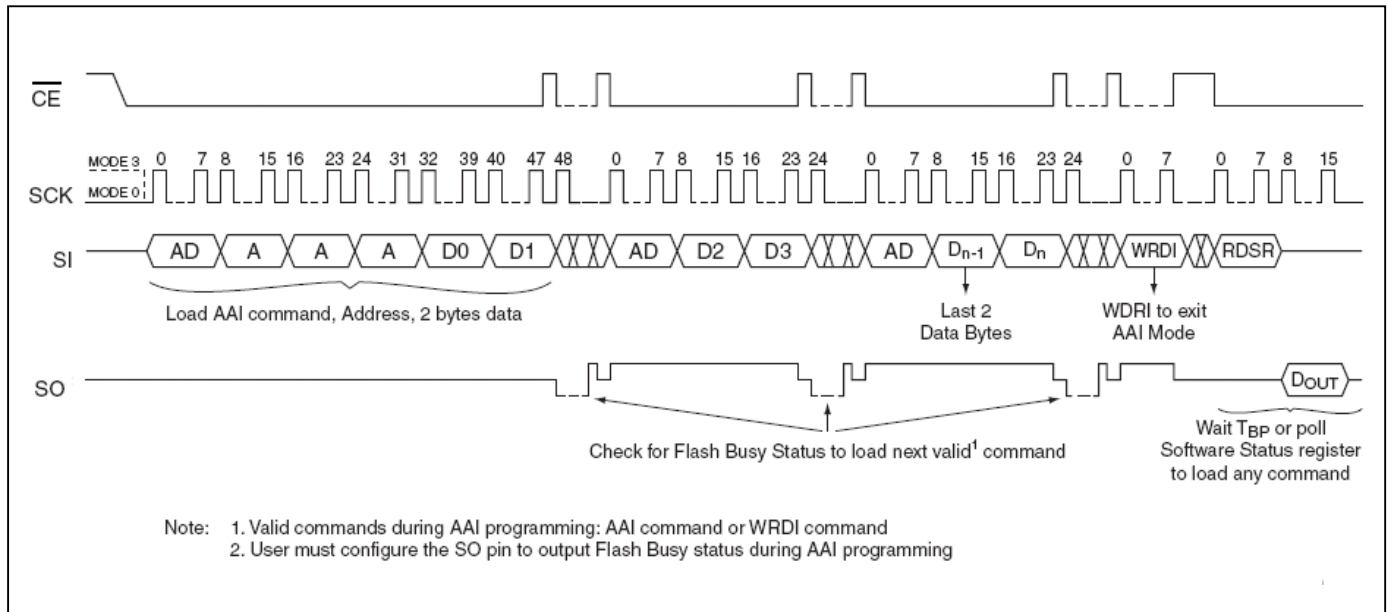
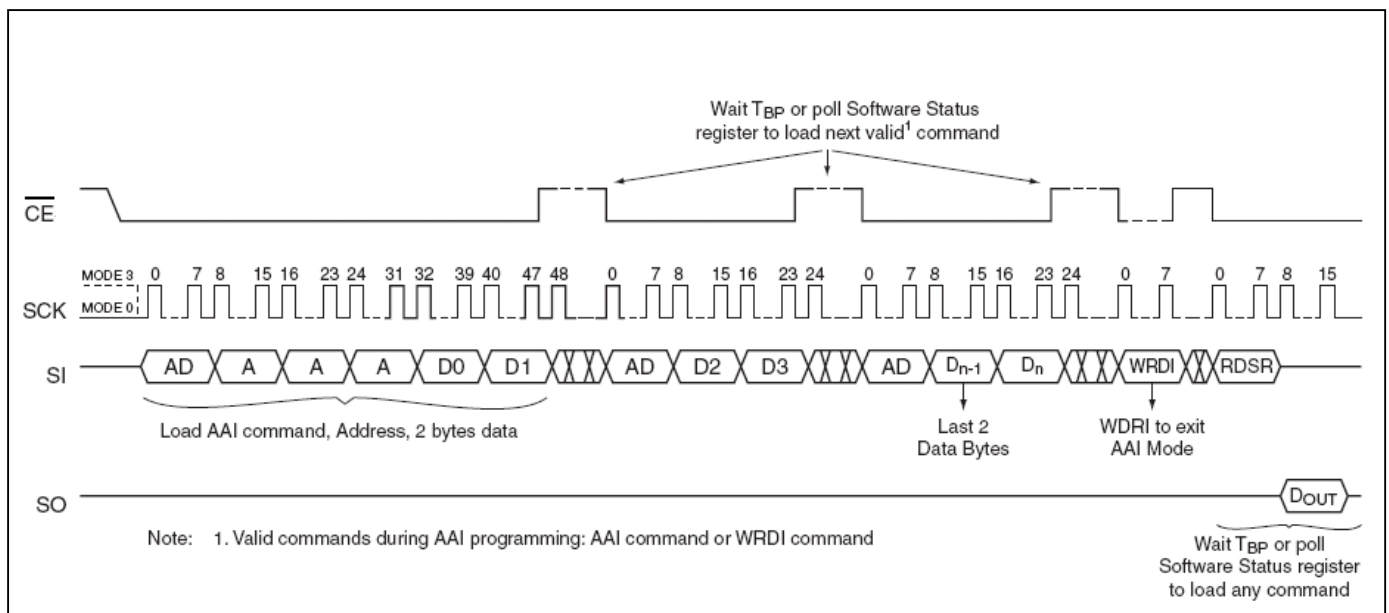

Figure 14: AAI Word Program Sequence with Hardware End of Write Detection
Figure 15: AAI Word Program Sequence with Software End of Write Detection
7) to LSB (bit 0). The first byte of data (D0) will be programmed into the initial address $[A_{23}-A_1]$ with $A_0=0$; the second byte of data (D1) will be programmed into the initial address $[A_{23}-A_1]$ with $A_0=1$. \overline{CE} must be driven high before the AAI WORD program instruction is executed. The user must check the busy status before entering the next valid command. Once the device indicates it is no longer busy, data for next two sequential addresses may be programmed and so on. When the last desired byte had been entered, check the busy status using the hardware method or the RDSR instruction and execute the WRDI instruction, to terminate AAI. User must check busy status after WRDI to determine if the device is ready for any command. Please refer to Figure 14 and Figure 15.